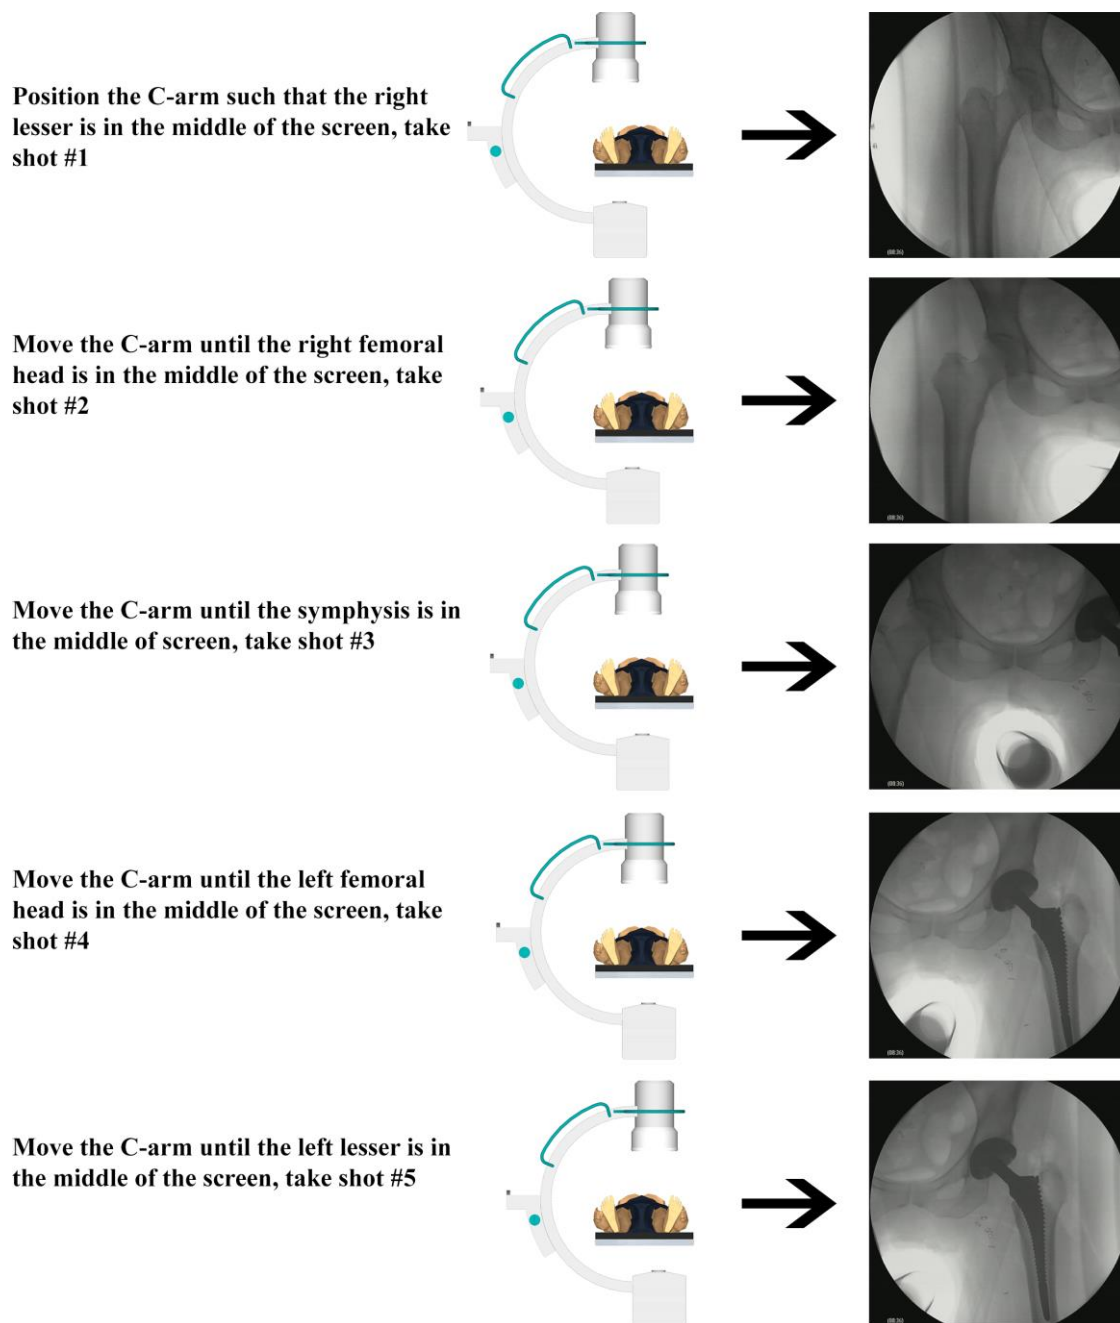

Figure 1. Bony landmark based approach.
- A. Bony landmark based approach. Please see Figure 1 for illustrations.